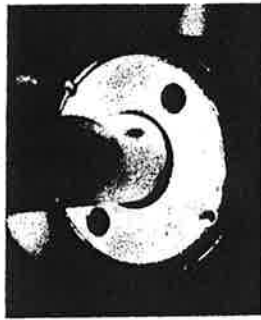

Fig. 1
7. Seal gap between metal funnel and air box. Use General Electric or Dow-Corning R.T.V., Silicon Rubber Sealant. (Figure 1)
5. Note punch marks and spanner holes in piston rod nut (Fig. 1). Clean out extruded metal between rod nut and cylinder housing. Remove nut.
11. Torque piston rod nut (new type has flats for wrench) to 80~100 in/lbs. Stake to prevent loosening (Fig. 1).